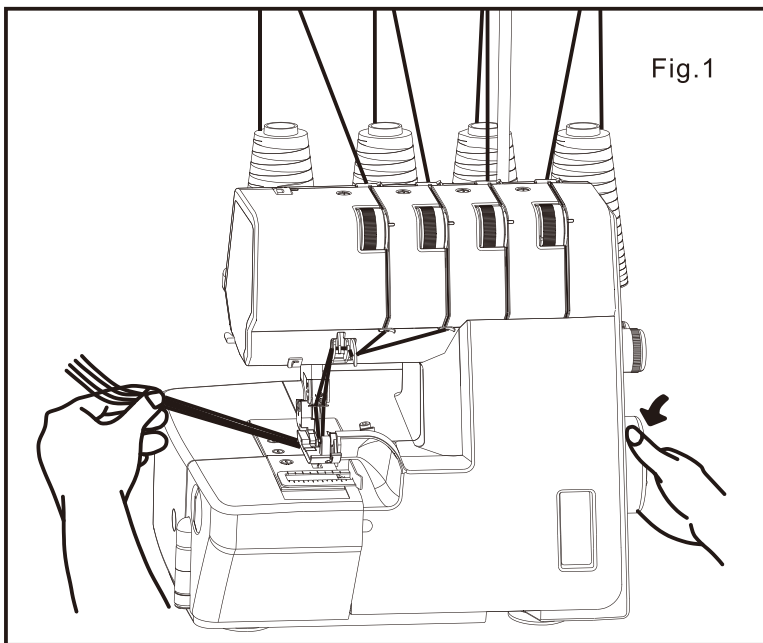

Fig.1
Pull out the two-thread convertor as shown in Fig. 1.
2. After finishing , replace the stitch finger in the needle plate. Please make sure it is inserted completely as illustrated in Fig 1.
Turn it towards “5” if fabric edge curls while sewing. (Fig.1)